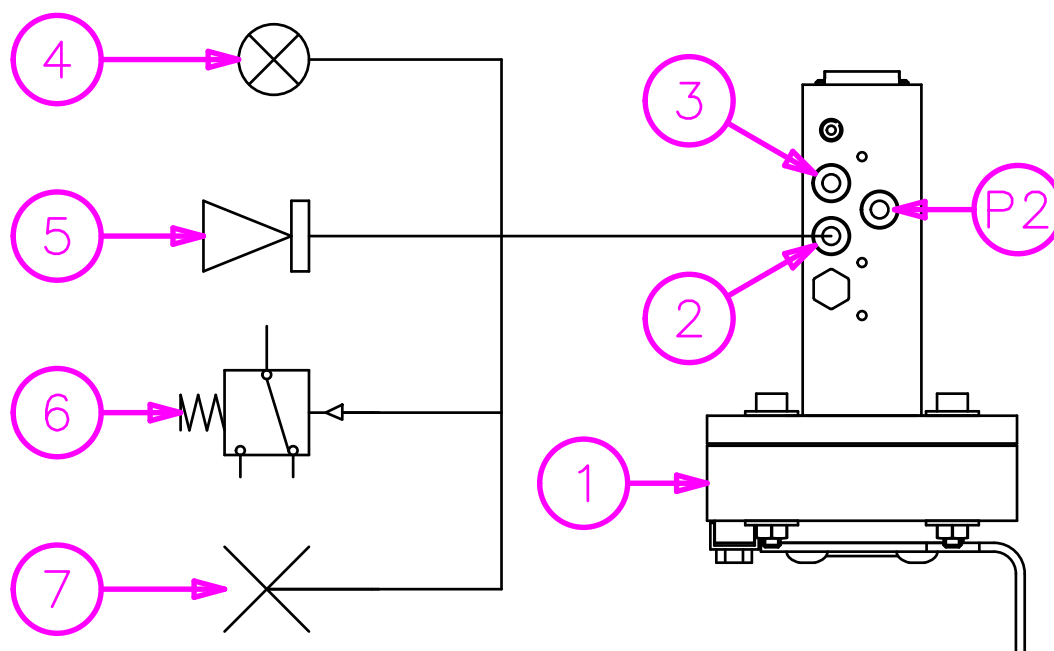

Fig.GEN-04
To use the Alarm O/P facility, see Fig.GEN-04
- Remove the M5 plug and install a 4mm to M5 push fit connection into the Alarm O/P connection Fig.GEN-04 (2).
- Connect any of the output options as shown in Fig.GEN-04 (4,5,6 or 7).